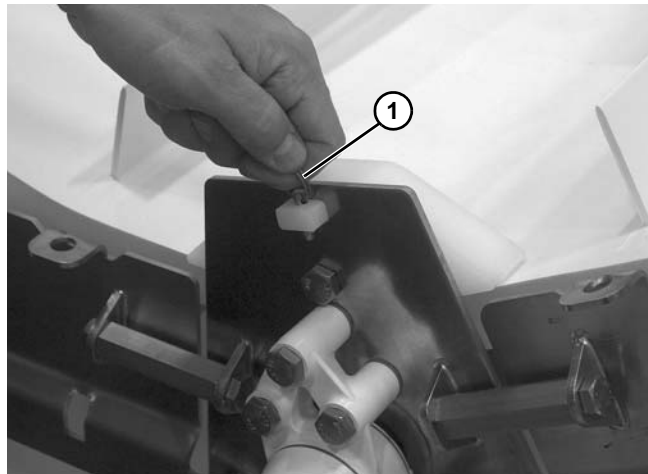

Figure 189
1. Remove pull pin (**Figure 189, item 1**) securing roller guard to lower knuckle plate.